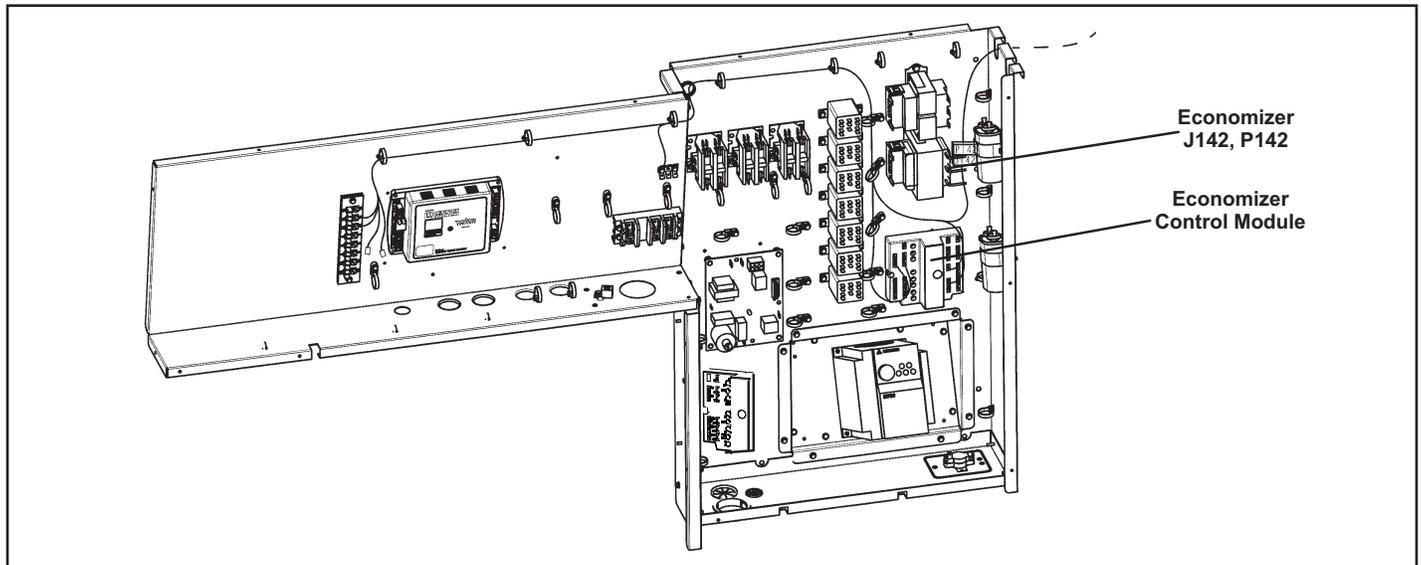

FIGURE 22
- 1 - The economizer control module is located below the actuator for shipping. Relocate the control to the unit control box, see FIGURE 22.
- 1 - Route the control wires to unit terminal block (TB1) and connect these wires to TB1 as following (see FIGURE 22):